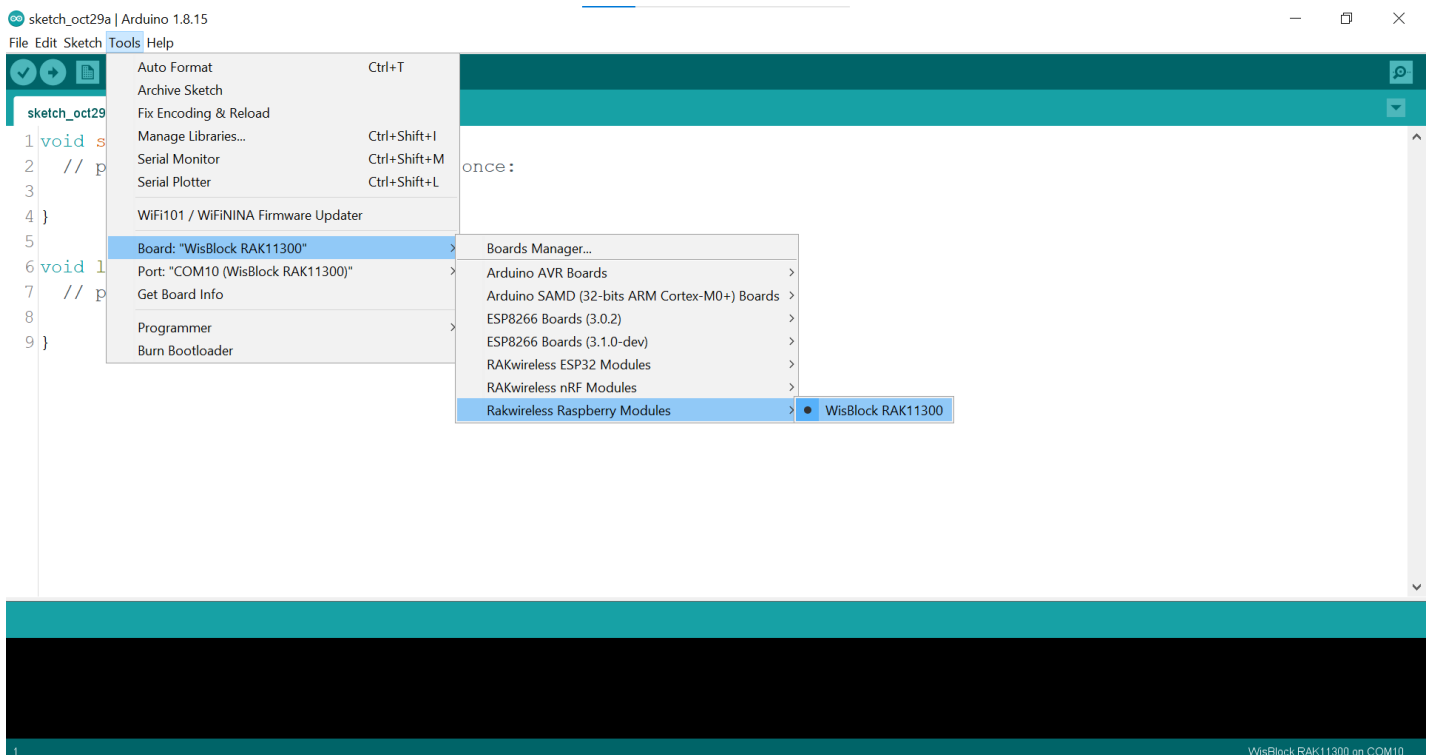

Figure 20: Selecting RAK11300 as WisBlock Core
1. First, you need to select the RAK11300 WisBlock Core as shown in Figure 20.